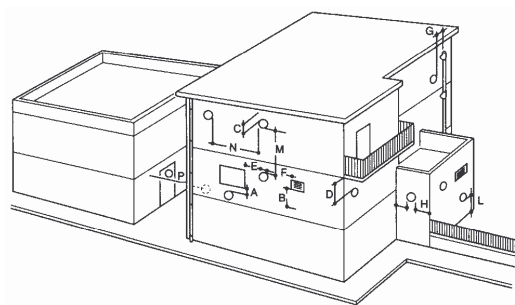

Fig.4
- This depends on the position of the fume exhaust duct fitting (fig. 4, 5 and 7) and **it must be installed in a covered and protected area**, in accordance with local legislation.